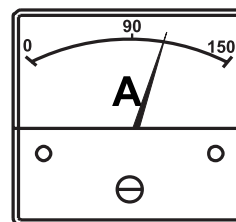

Figure 17. Ammeter (Load)
13. Observe the generator's ammeter (Figure 17) and verify it reads the anticipated amount of current with respect to the load. The ammeter will only display a current reading if a load is in use.